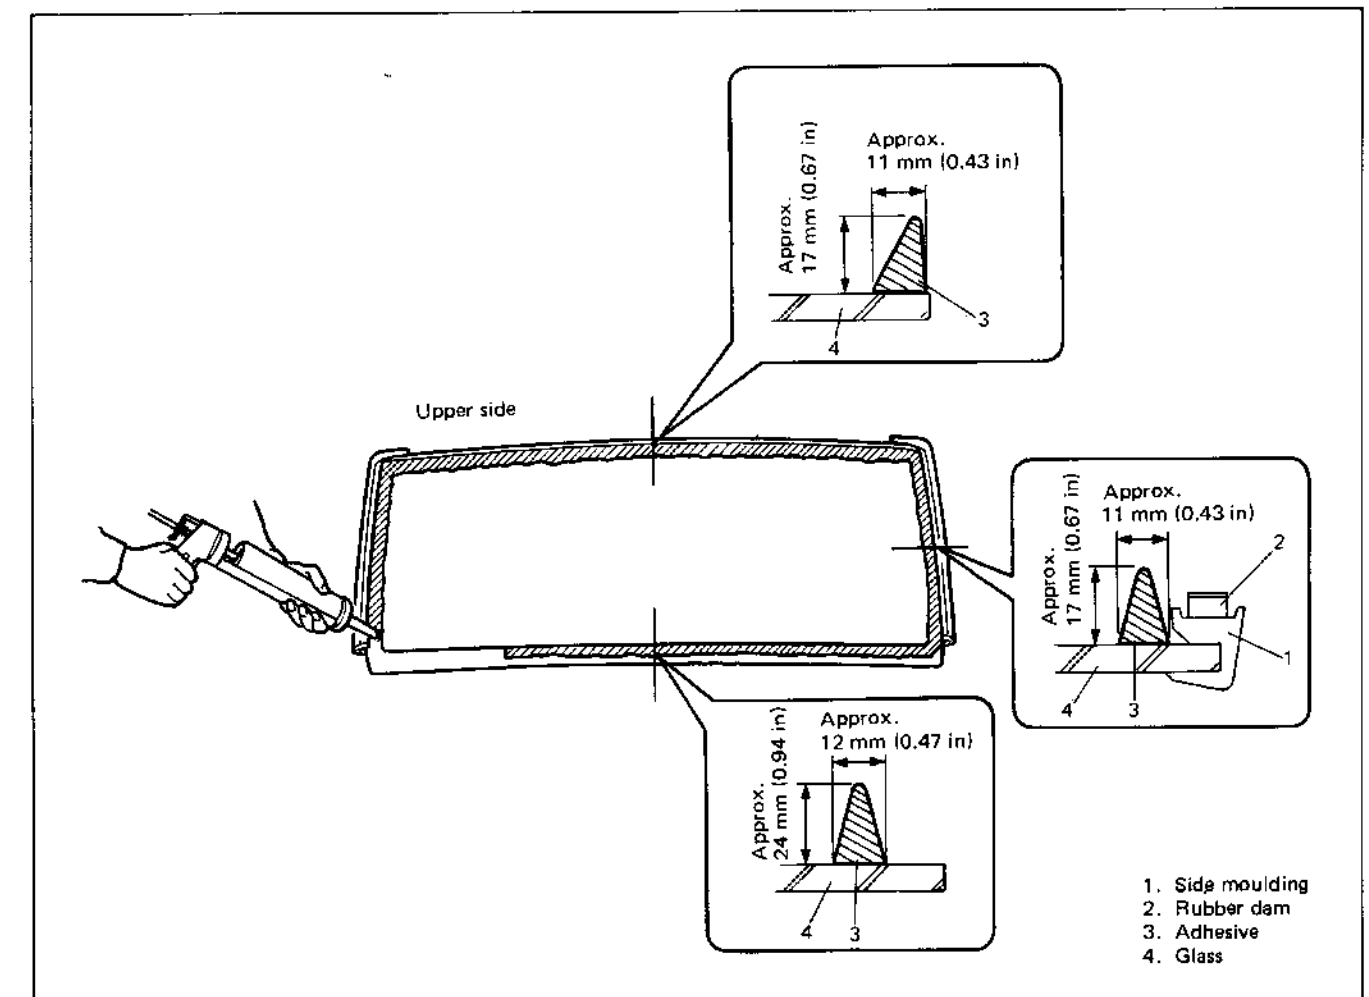

Fig. 9-39 Application of Adhesive
- 9) Apply adhesive referring to Fig. 9-39.
- For application of adhesive in detail, refer to Fig. 9-39.